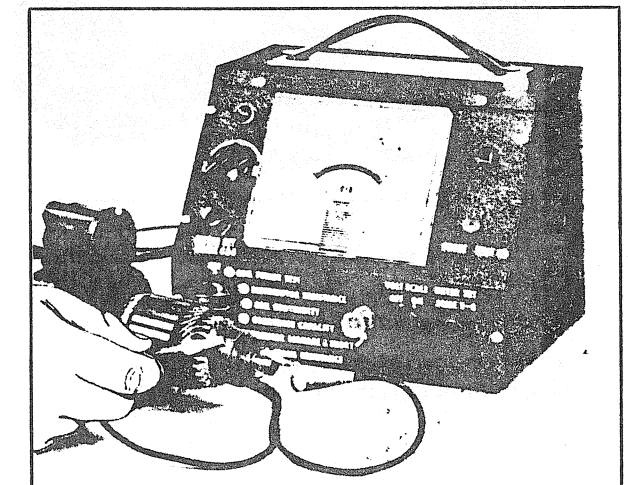

FIGURE 11
- If pointer moves across the meter to the right, as the divisions are contacted, the armature is grounded and must be replaced or commutator must be cut down and mica must be undercut. (Fig. 11).